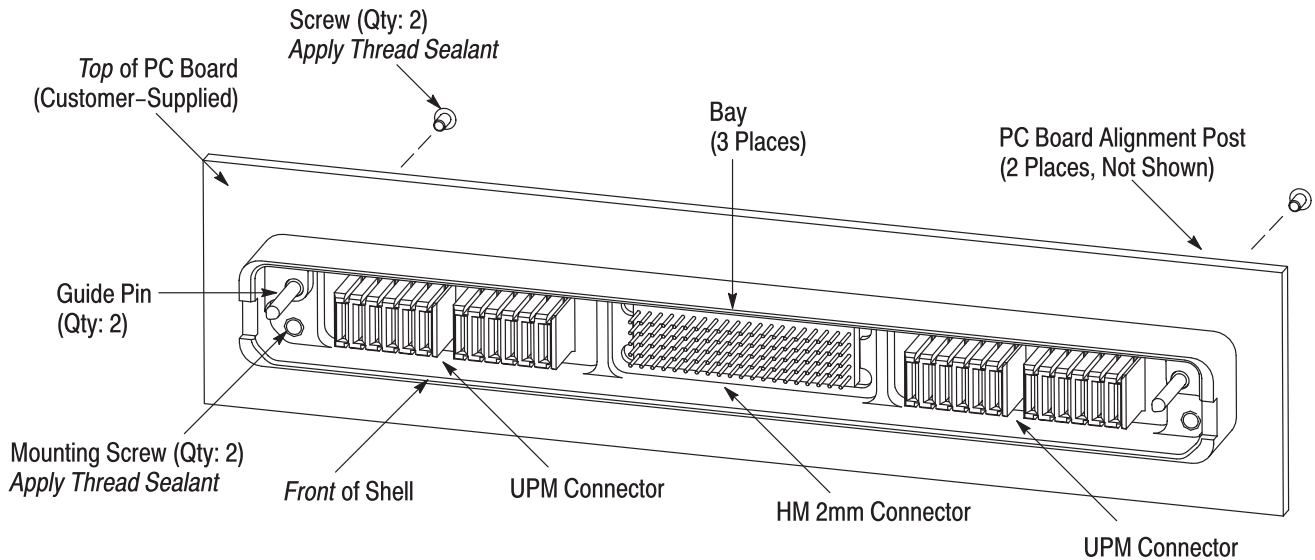

Figure 2
3.2. Mother Board Connector Kit (Refer to Figure 2)